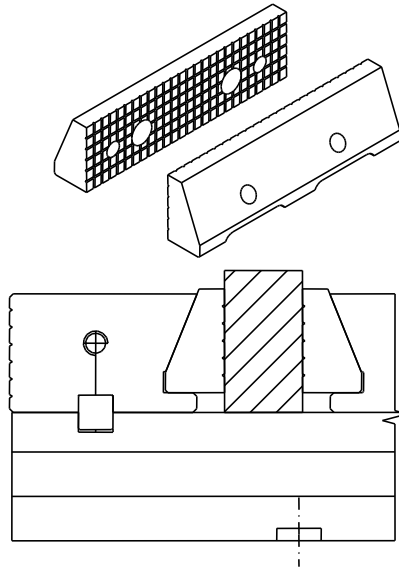

Fig. 21. Grooved jaw insert.
- Clamping the workpiece with the grooved jaw inserts (Fig. 21),